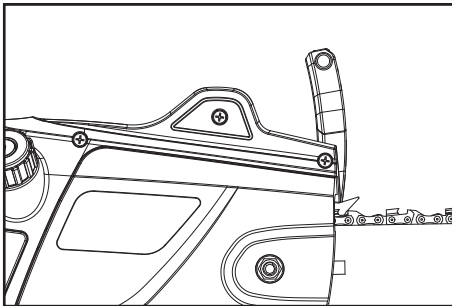

Fig. 5a
1. The chain brake is a safety mechanism activated by the front hand guard (2). When kickback occurs, the saw chain stops immediately.
2. The chain brake in the disengaged position, the product can be operated (Fig. 5a).